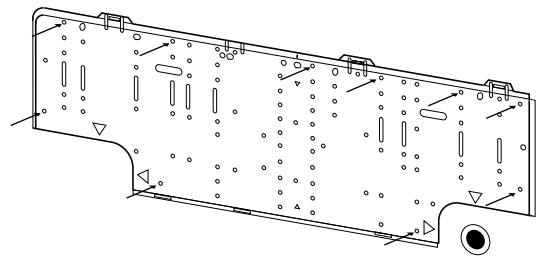

Fig. 11
- (1) Attach the rear panel to the wall with the 10 screws provided. (Fig. 11)